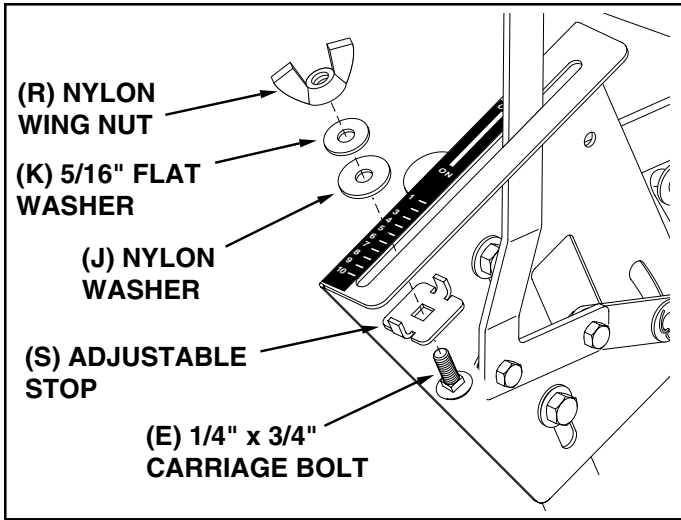

FIGURE 11
- Place the adjustable stop (S) into the "ON" end of the slot in the top of the flow control mounting bracket. Secure with the 1/4" x 3/4" carriage bolt (E), a nylon washer (J), a 5/16" flat washer (K) and the nylon wing nut (R). See figure 11.